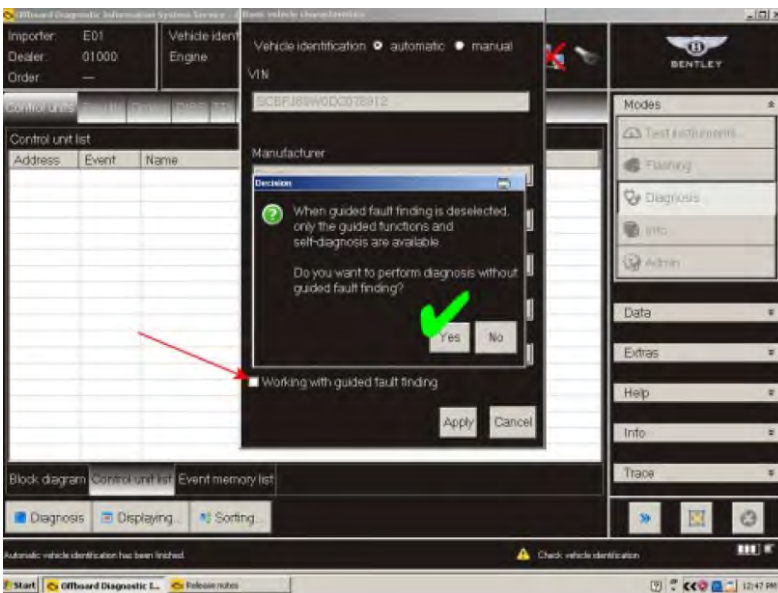

Figure 1
- De select *Working with guided fault finding* (see Figure 1)